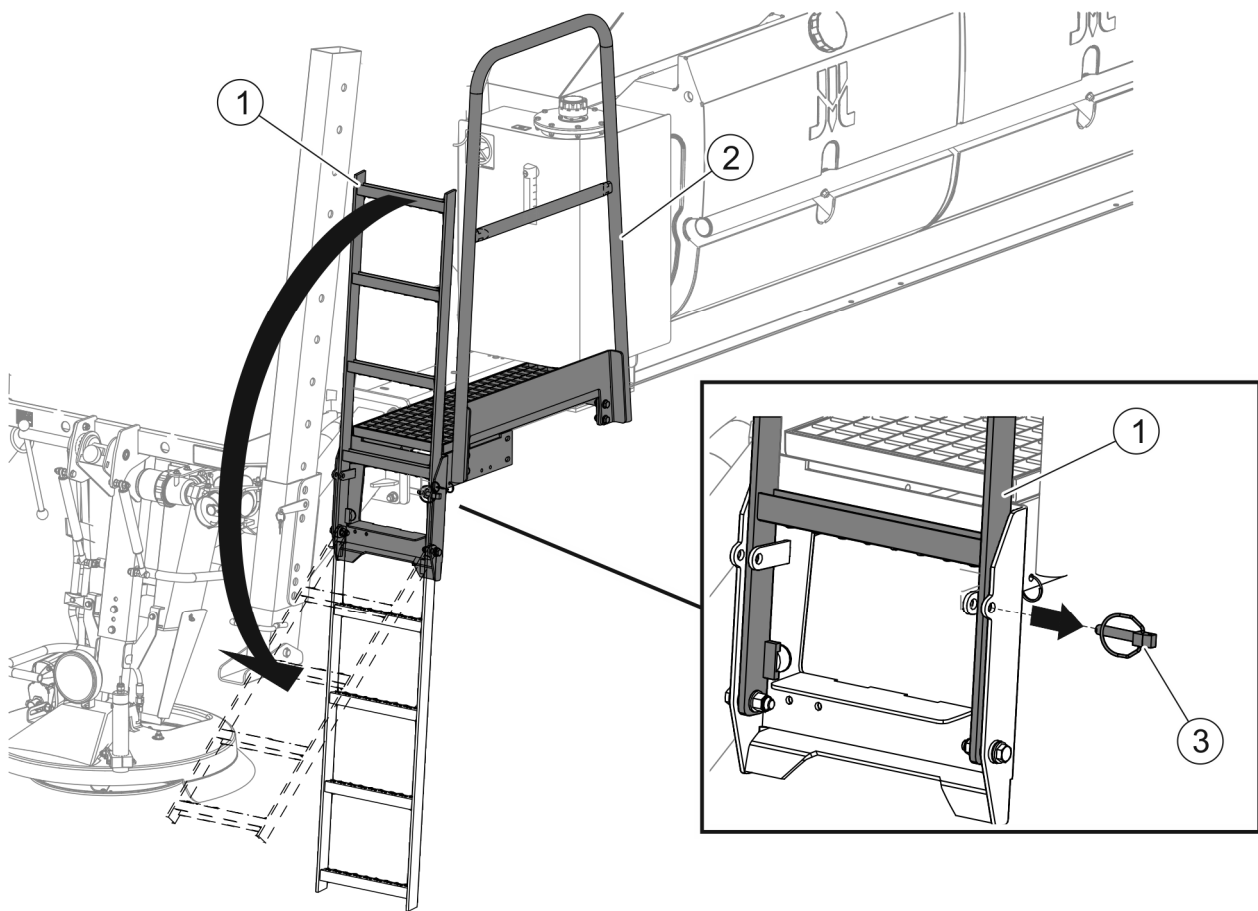

FIGURE 4.13 Platform with ladder
(1) - ladder; (2) - platform; (3) - securing cotter pin
The platform (FIGURE 4.13) fitted with ladder (1) facilitates raising and lowering the tarpaulin cover.
To lower (FIGURE 4.13) the ladder: